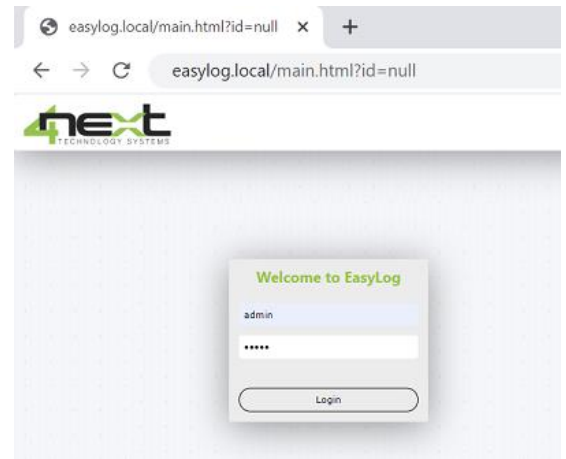

Fig.7 Login
The first screen (Fig.7) is the authentication page with username and password.
Password: admin (Fig. 7)
13. Select "Network" from the Configurations menu to set the EasyLog network parameters to match those of your Ethernet network. For example, if in the original screen in Fig.7 the IP address was 192.168.10.1, set EasyLog to 192.168.10.100. (Example in Fig. 15).